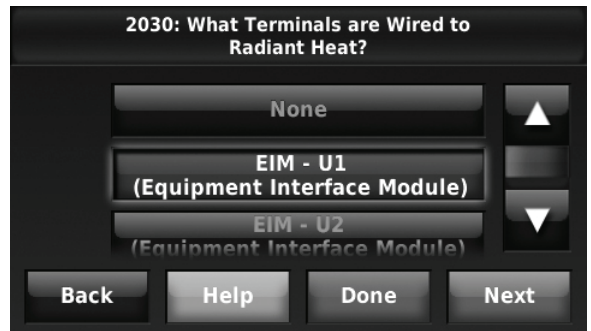

Fig. 204.
3. Select the U terminals wired to the Geothermal Radiant Heat. See Fig. 204.